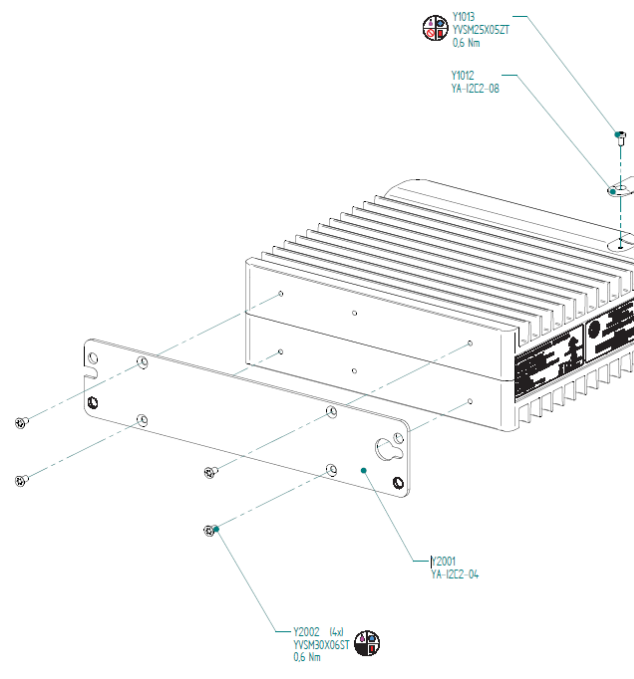

Figure 22: Panel-Mount Bracket Assembly CPE400
3. Install the panel-mount bracket as shown in Figure 22, using the four machine screws supplied with that bracket. Note that the closed eyelet is towards the top of the chassis.